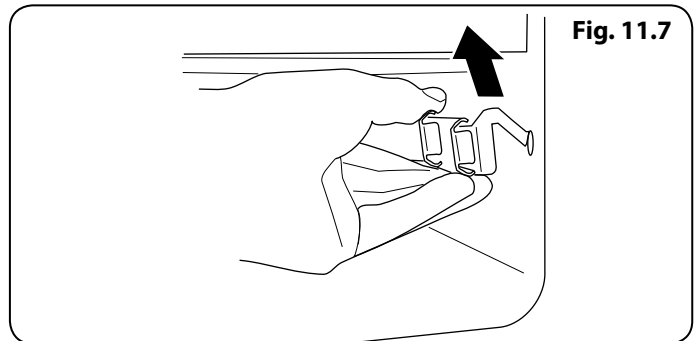

Fig. 11.7
3. If you need to remove the telescopic runners to allow cleaning of the broiler chamber, first remove the broiler tray then you can unhook them from the broiler chamber sides (**Fig. 11.7**).